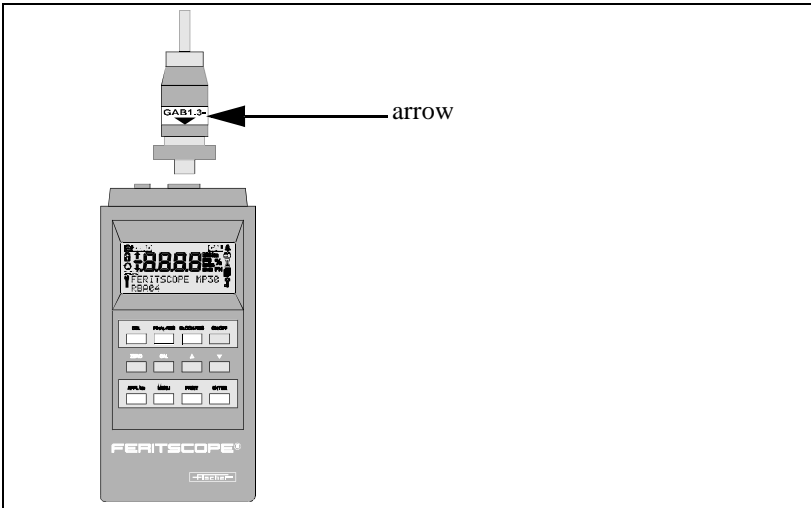

Figure 10.3: Orientation of the probe connector when plugging the probe connector into the probe receptacle
3. Plug the probe connector of the new probe into the probe receptacle of the instrument (refer to figure 10.3).